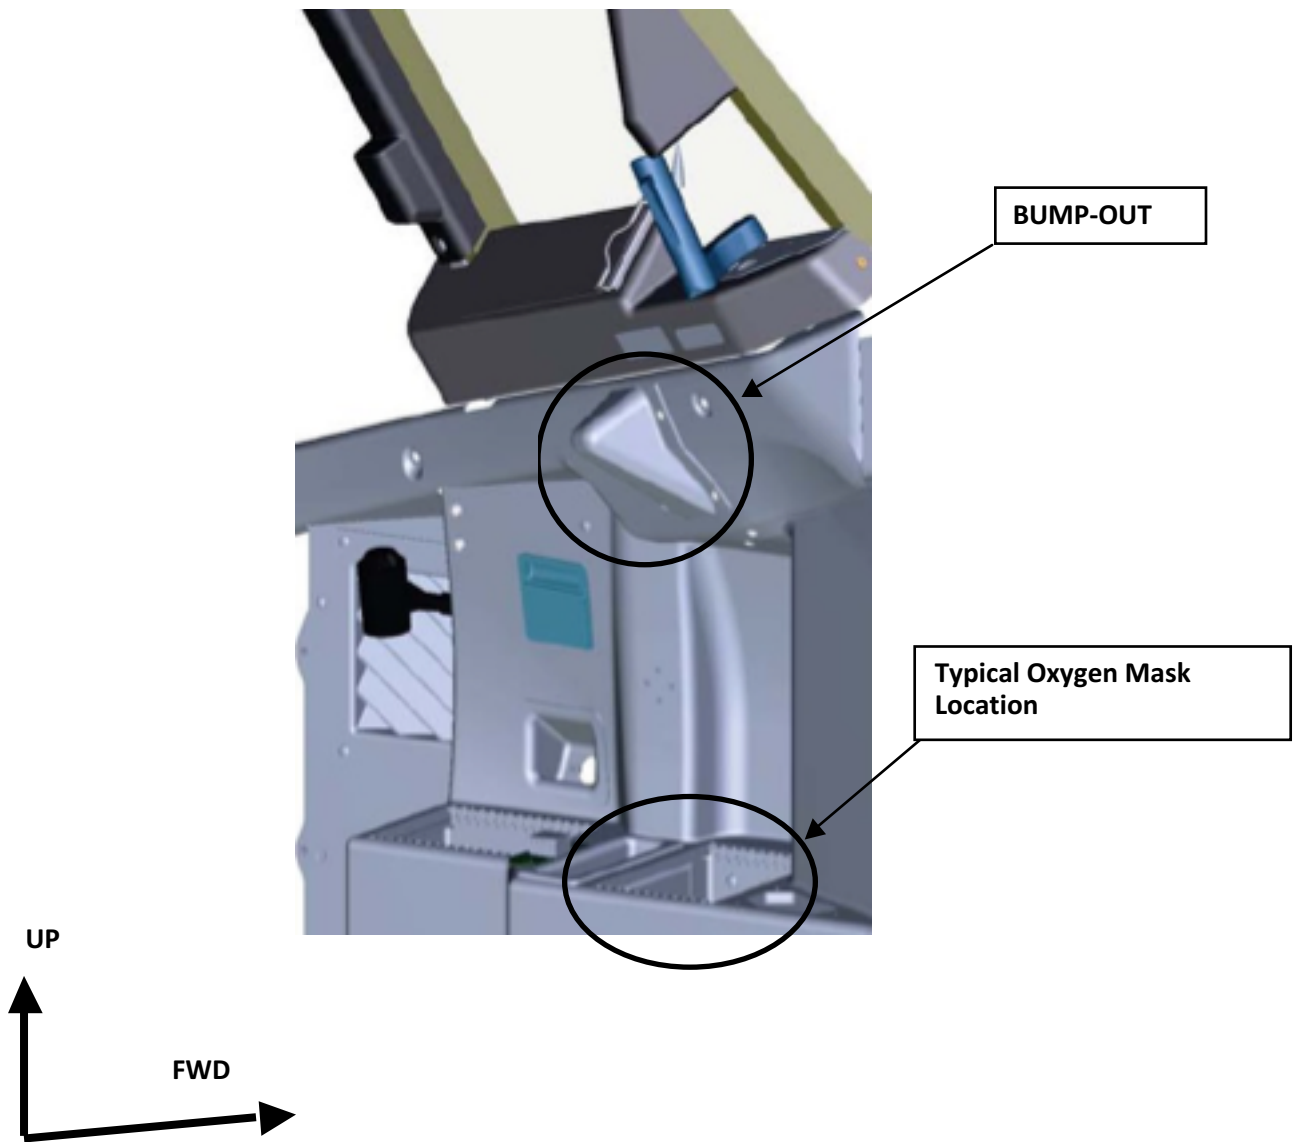

Figure B9: Sidewall “Bump-Out” Captain’s Side (First Officer’s Side is Mirror Image)
- » There will be a molded “bump-out” section added to the quarter sill lining on the captain’s and first officer’s side of the aircraft (see Figure B9). This addition will prevent the EDU corner from interfering with the oxygen mask donning operation.